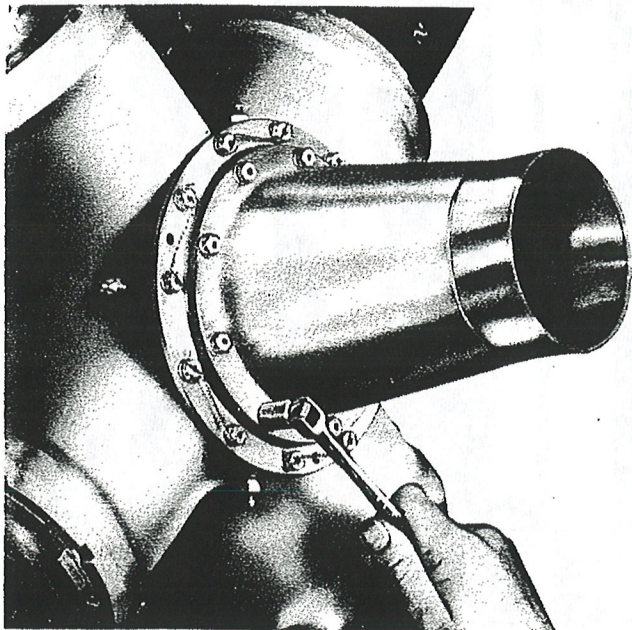

Figure 23—Installing Spinner Adapter
- p. Install the spinner adapter. Engage the tangs on the spinner adapter with the castellations in the shaft nut in a position which will align the holes of the spinner adapter with the holes of the master gear retaining plate. Install and safety the bolts. (See figure 23.)